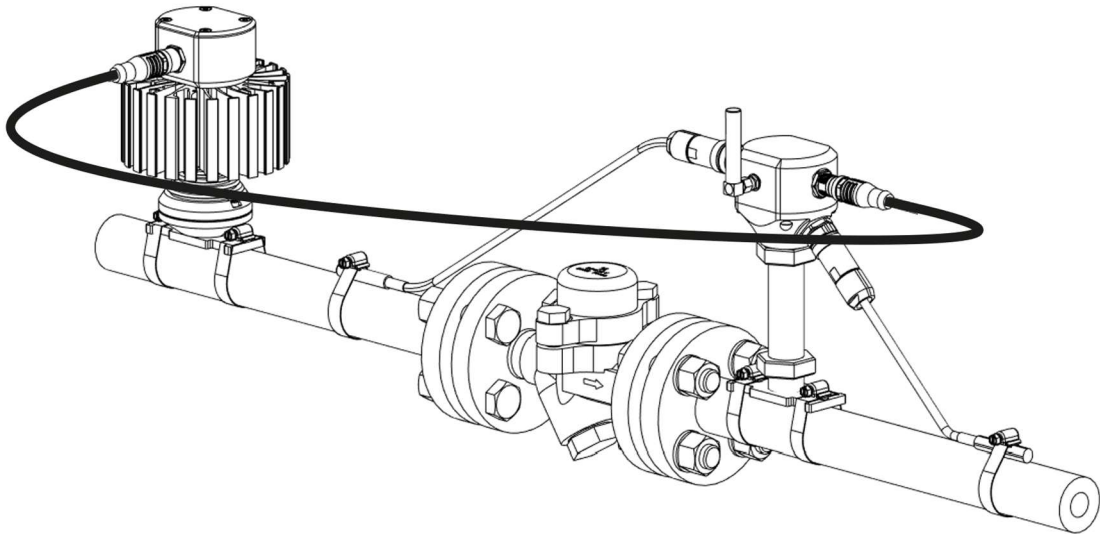

Figure 15.- Example of connection between the IIoT Wireless module (InduEye® LeakSense/TempSense) and the Generator module (InduEye® TG One module)
3. On the other side, from the power generation module, in this case a Thermoelectric generator, make sure the connection between modules is properly done (Figure 15).